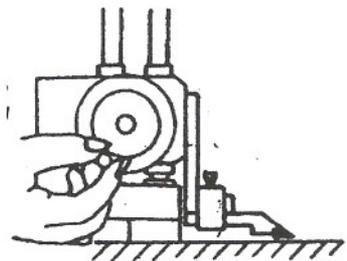

Fig. 2
- a. Course adjustment: Turn the small handle. Fig. 2.